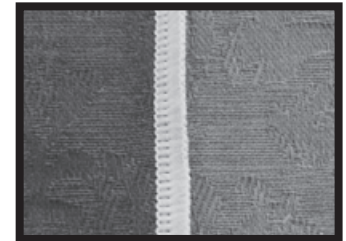

Fig. 1
5. With wrong sides together, serge first set of strips together. Then serge second set of strips together. **(Fig. 1)**